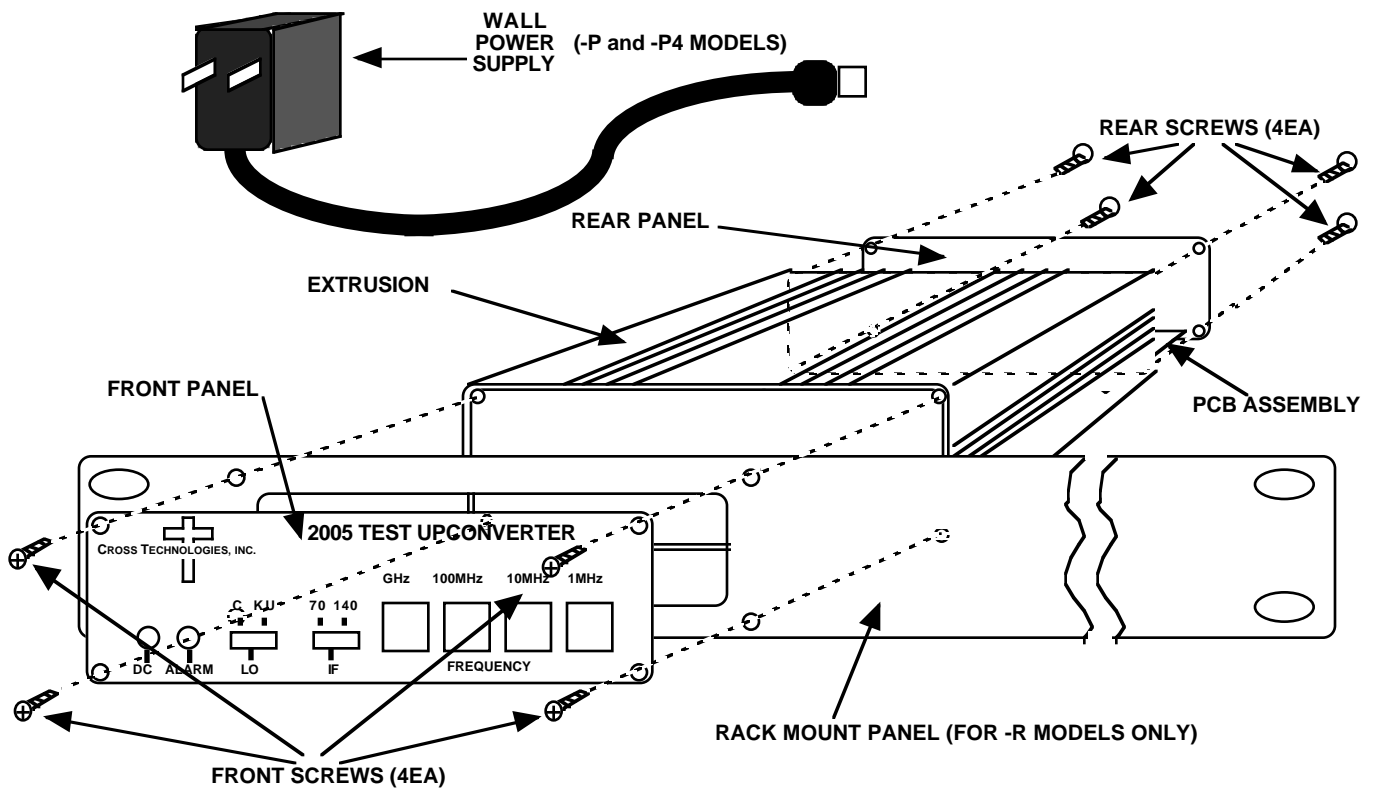

FIGURE 2.3 2005 Assembly Drawing
The 2005 is packaged in an aluminum extrusion. The **-R option** is mounted on a 1 3/4" X 19" panel that can be mounted to a rack using the 4 holes at the ends. Both units derive +DC from the RF out center conductor (+14 to +20 VDC) or the wall power supply (+15VDC unregulated). See Figure 2.3.
2. Remove four (4) **rear panel screws** (see Figure 2.3).
5. Install four (4) **rear panel screws**.